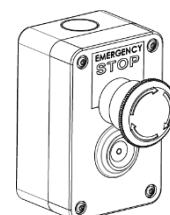

Figure 1
- b. In a workshop, one would find a number of emergency stop buttons such as the one shown in Figure 1. What type of switch is this?